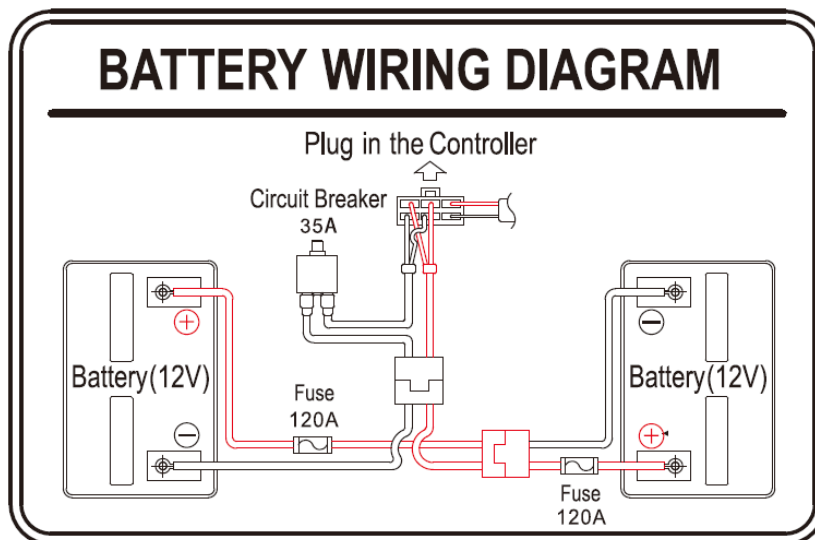

Figure 8.5
8.6.10 Verify that all connections are correct and terminals are secure. (See Figure 8.5)